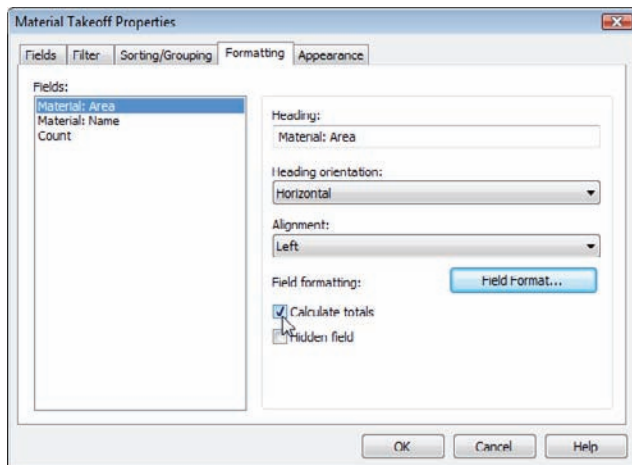

FIGURE 11.29 On the Formatting tab, you can specify Calculate Totals for the Material: Area option.
1. In the Properties dialog, click the Edit button next to the Formatting row to bring up the Material Takeoff Properties dialog, shown in Figure 11.29.
2. In the field to the left, select Material: Area (see Figure 11.29).
3. At right, select Calculate Totals (see Figure 11.29).